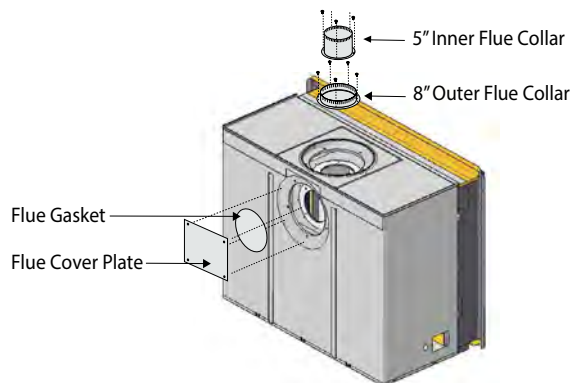

Figure 8. Flue cover and collar removal, Top Vented fireplace.
1. Remove the Rear flue cover and gasket (5" and 8") on the flue outlet, as shown in Figure 8.
2. Next, Remove the Top flue collar's (5" and 8") on the flue outlet, as shown in Figure 8.